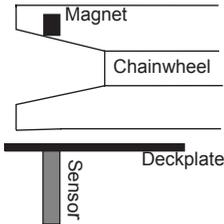

Fig 2
**Magnet Fit:** Some windlasses are predrilled and others need a special fit. Please check with your supplier. The usual fit is as follows: Drill a hole 10.3mm (13/32") diameter and 9.5mm (3/8") deep into a spoke in the top of the chainwheel. Cover the magnet with a minimum of 1mm epoxy. The magnet and sensor must be aligned so that the anchor rode passes between them.(See Figs 2 & 3).